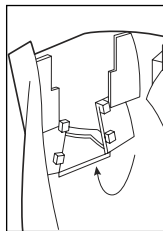

Figure 3
- To refit the filter baffle (See Figure 3): Lower the baffle into the body of the kettle, on the handle side of the baffle mounts. Bring it forward to the spout side of the baffle mounts. Raise it until the bottom baffle clips engage with the bottoms of the baffle mounts. Squeeze the top baffle clips over the tops of the baffle mounts.